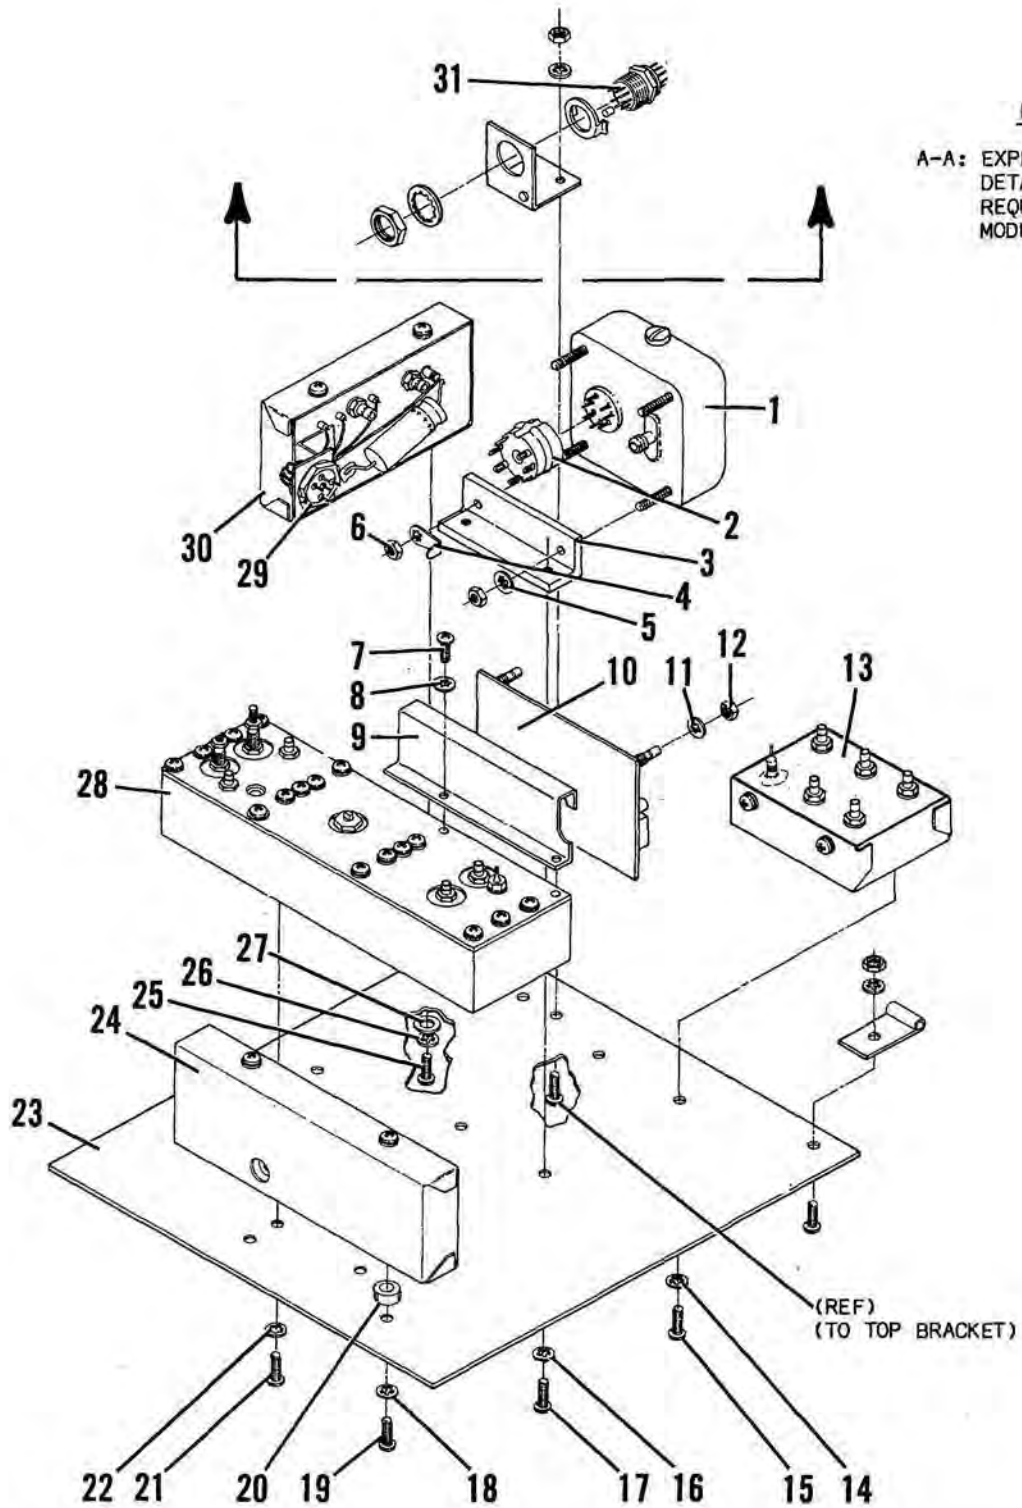

Figure 6-1 Upper Floor Disassembly and Reassembly
- B. Remove HETERODYNE AMPLIFIER/÷2 PRESCALER (24) (Fig. 6-1) by removing:
- 2. Two Phillips screws (19), lock washers (18) and spacers (20).
- C. Remove AGC CIRCUIT BOARD (10) (Fig. 6-1) by removing:
- 1. Wire (unsolder) from feed-thru on 1200-2200 MHz Oscillator (28) which goes to AGC Circuit Board (10).
- 2. Two coax cables from AGC Circuit Board (10).
- 3. Two Phillips screws (7) and lock washers (8) which hold AGC circuit board's mounting bracket (9) to 1200-2200 MHz Oscillator (28).
- 4. Two hex nuts (12) (just loosen) on AGC Board's coax connectors. Slide circuit board (10) free of bracket (9).
- D. Remove 1200-2200 MHz OSCILLATOR (28) (Fig. 6-1) by removing:
- 2. Four Phillips screws (21) and lock washers (22) which hold Oscillator (28) to Upper Floor (23).
- E. Remove TCXO MASTER OSCILLATOR (1) (Fig. 6-1) by removing:
1. Two Phillips screws (17) and two lock washers (16) securing mounting bracket (3) to Upper Floor.
3. Tube socket (2) from mating connector.
4. Two hex nuts (6), one lock washer (5) and one terminal lug (4) which secure TCXO Master Oscillator (1) to mounting bracket (3).
- F. Remove TCXO DISTRIBUTION AMPLIFIER (13) (Fig. 6-1) by removing:
2. Two Phillips screws (15) and lock washers (14) which secure Amplifier (13) to upper floor (23).
- G. Remove CLOCK DIVIDER (30) (Fig. 6-1) by removing:
2. Circular connector from mating connector (29).
3. Two each Phillips screws (25), lock washers (26) and flat washers (27) which secure Clock Divider (30) to Upper Floor (23).